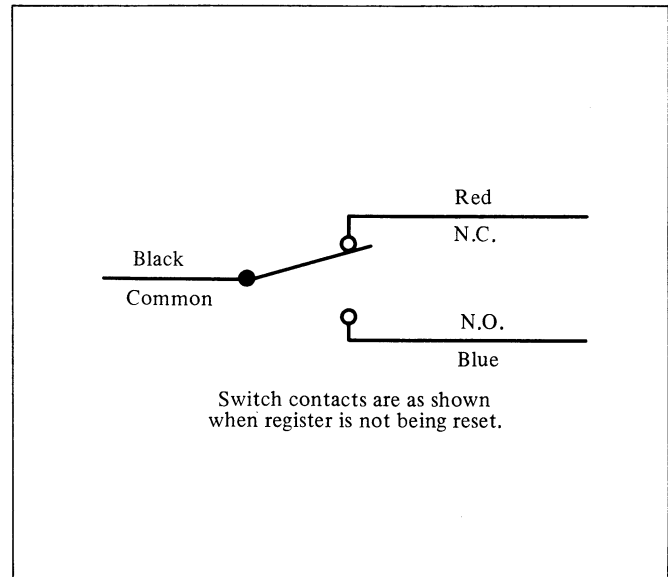

Figure 4. Switch Connections.
3. See Figure 4 for recommended wiring to controls and relays. Only the Interlock Switch is provided in this kit.